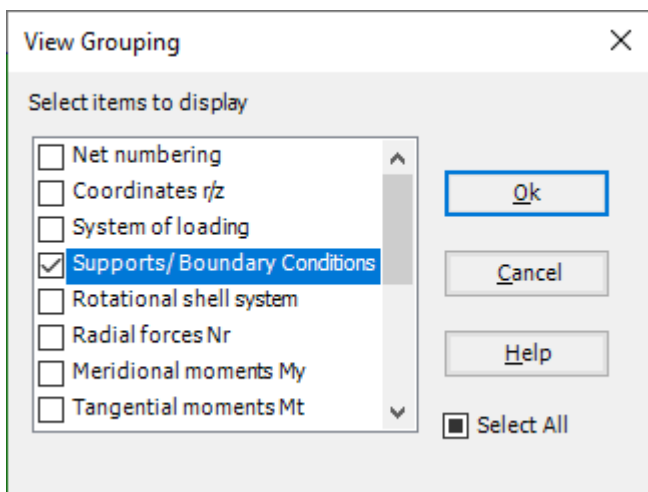

Figure 11.33 "View Grouping" check group box
- From "Options" menu in the "Graphic" tab, choose "View Grouping" command. The "View Grouping" check group box in Figure 11.33 appears